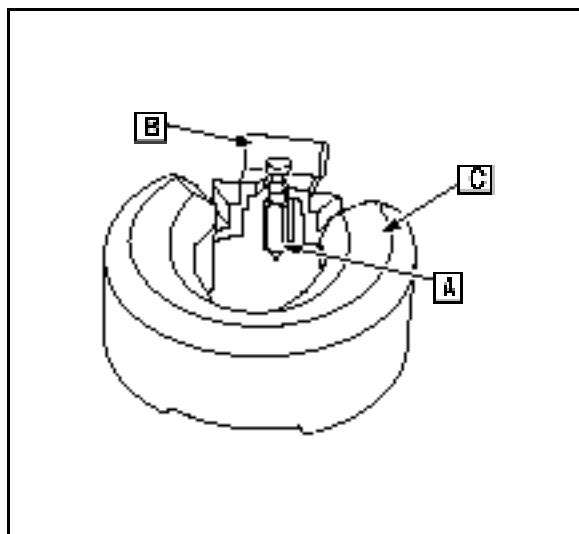

Fig. 65
15. Slide fuel needle valve assembly (A) on to tab (B) of float ([C] Fig. 65).